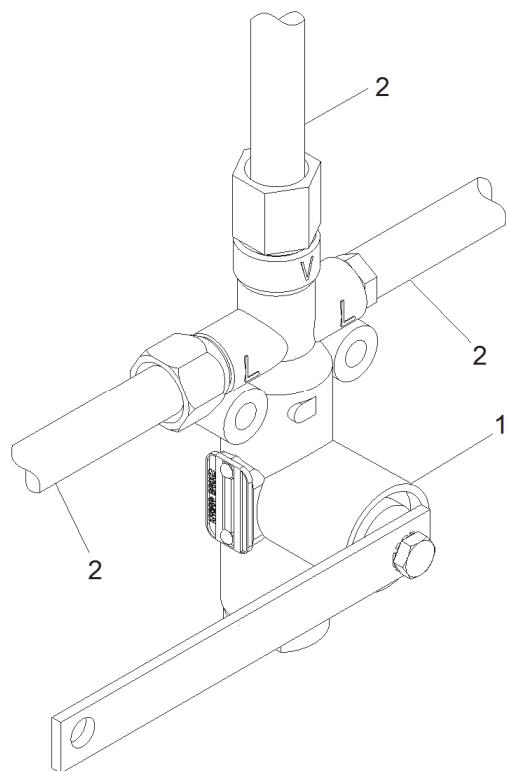

Figure 3-4: Leveling Valve Inspection
1. Check leveling valve (1) for obvious visible damage such as dents, scratching, scoring, corrosion, or missing parts. If excessively damaged or missing parts, replace leveling valve. See Figure 3-4.
2. With brake system pressurized, apply leak detector to pipe connections (2) and body seams of leveling valve (1).